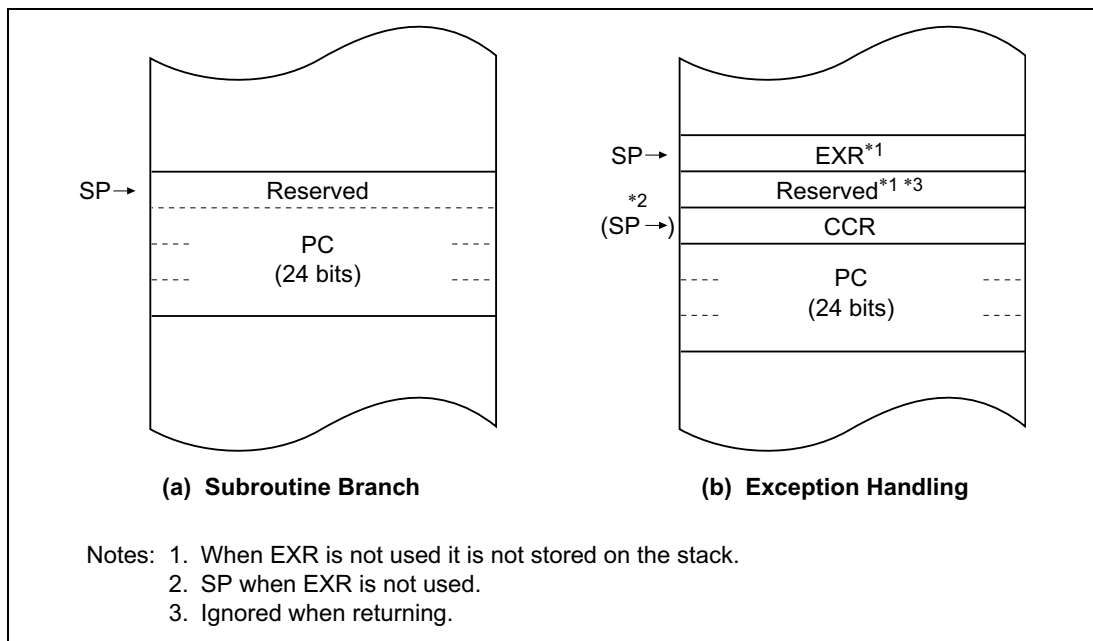

Figure 2-2 Stack Structure in Advanced Mode
Stack Structure: In advanced mode, when the program counter (PC) is pushed onto the stack in a subroutine call, and the PC, condition-code register (CCR), and extended control register (EXR) are pushed onto the stack in exception handling, they are stored as shown in figure 2-2. When EXR is invalid, it is not pushed onto the stack. For details, see section 4, Exception Handling.